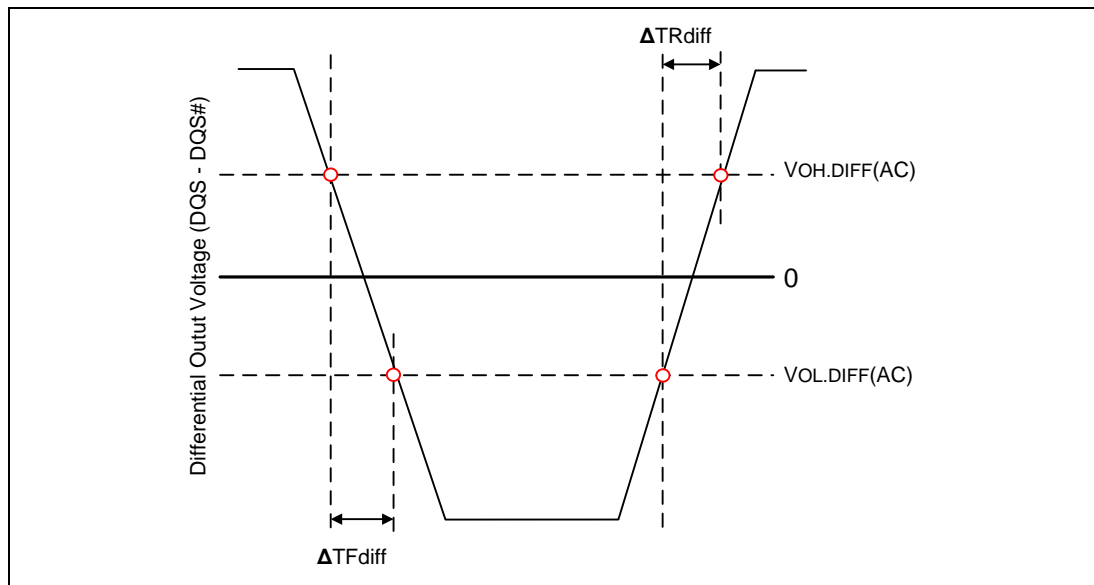

Figure 95 – Differential Output Slew Rate Definition
With the reference load for timing measurements, output slew rate for falling and rising edges is defined and measured between VOL.DIFF(AC) and VOH.DIFF(AC) for differential signals as shown in Table 29 and Figure 95.